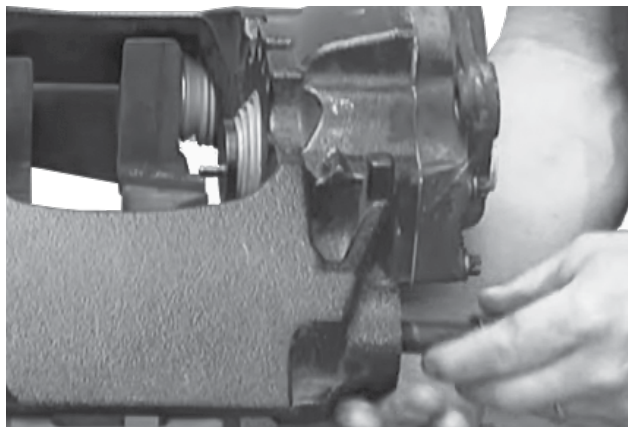

Figure 71: Installing guide pin screws
Always tighten the longer guide pin first, then the shorter guide pin (Figure 71). If the guide pins are removed from the brake carrier during maintenance work, new screws must be used.
2. **Insert** a new long guide pin screw (Figure 71) through the long guide pin and thread into the brake carrier (Figure 71). **Snug** screw with wrench. Refer to APPENDIX A: WRENCH SIZE AND TIGHTENING TORQUES on page 37, item IV.
4. **Torque** the screws into the brake carrier (Figure 71); long screw first. Refer to APPENDIX A: WRENCH SIZE AND TIGHTENING TORQUES on page 37, item IV.